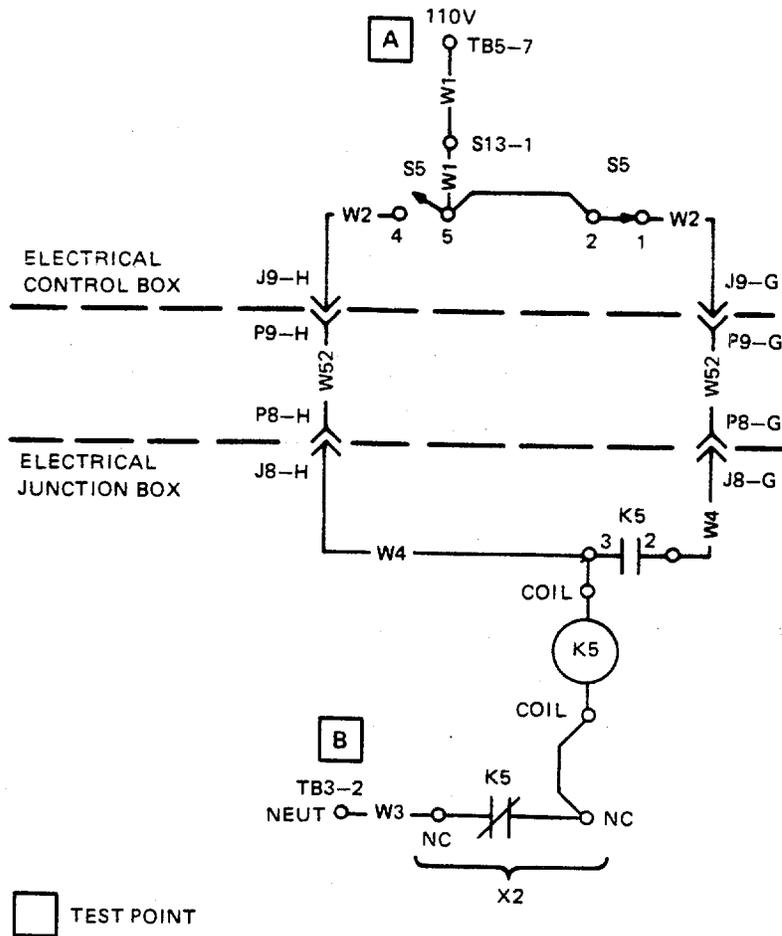

Figure 3-5. Distribution Pump Assembly Support Diagram
Ensure that all circuit breakers are set. Refer to figure FO-3 for schematic diagram and figure FO-4 for interconnection diagram. Refer to figure 3-1 for control box support diagram, figure 3-2 for junction box support diagram, and figure 3-5 for distribution pump assembly support diagram.
- Step 3. Shut down ROWPU. Refer to TM 10-4610-239-10. Shut down power. Refer to generator manual. Refer to distribution pump assembly support diagram figure 3-5. Hold DISTRIBUTION PUMP switch in START position. Check continuity point-to-point between test points A and B through S5-5 and S5-4.
- Step 4. Shut down ROWPU. Refer to TM 10-4610-239-10. Shut down power. Refer to generator manual. Refer to distribution pump assembly support diagram figure 3-5. Set DISTRIBUTION PUMP switch to RUN position. Check continuity point-to-point between test points A and B through S5-2 and S5-1.